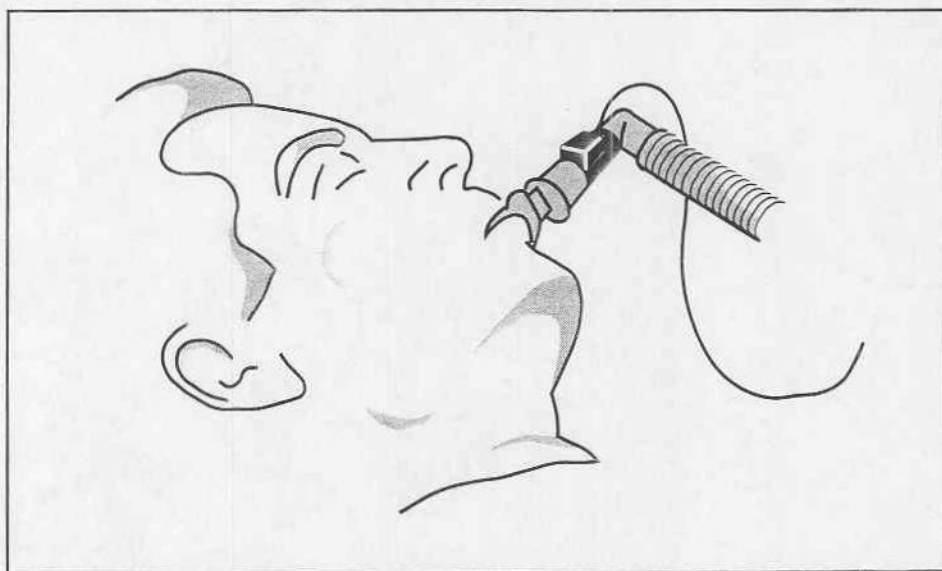

Figure 2-41. Positioning CO₂ sensor on top
When attaching the airway adapter in the next steps, position the adapter so that the sensor is on top as shown in Figure 2-41 to avoid fluid collection in the sensor airway slot. Any concentration of fluids here can cause inaccurate CO₂ readings.
- 5 Gently push and twist the larger end of the adapter onto the patient's tracheal or endotracheal tube (see Figure 2-41).
- 6 Gently push and twist the smaller end of the adapter onto the ventilator circuit tubing (see Figure 2-41).